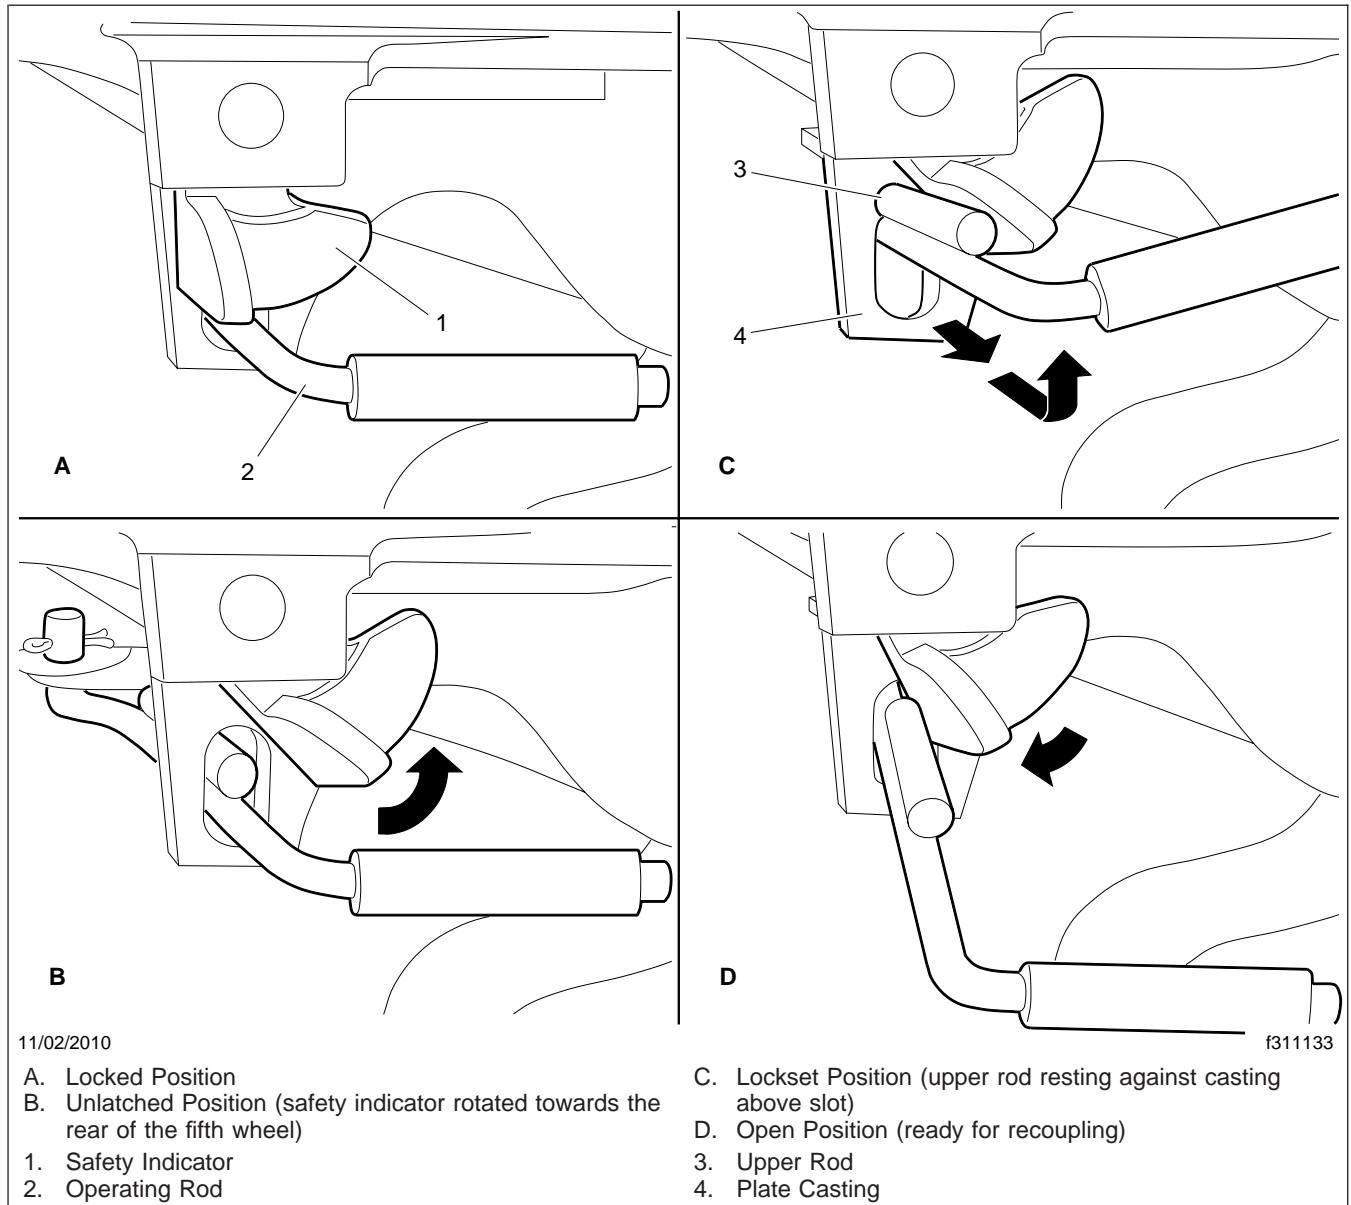

Fig. 10.9, Holland Kingpin Locking Mechanism
6.2 **Holland:** In the locked position the safety indicator swings freely over the operating rod. See Fig. 10.9, View A.
To unlock the mechanism, manually rotate the safety indicator toward the rear of the fifth wheel. See Fig. 10.9, View B.
Pull the operating rod out. When the upper operating rod shoulder is outside the slot, raise the handle and place the shoulder of the upper rod against the plate casting, above the slot. See Fig. 10.9, View C.
The fifth wheel is now in the lockset position and is ready for uncoupling. As the tractor pulls away from the trailer the kingpin forces the jaw to rotate, contacting the lock. Continued rotation of the jaw forces the lock to move outward, and drops the upper rod back into the slot. See Fig. 10.9 View D. The wheel is now ready for coupling.